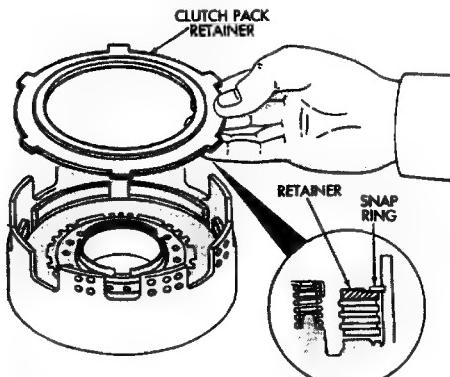

Fig. 12 Install Clutch Pack Retainer
- (5) Install clutch pack retainer in drum (Fig. 12).
- (6) Install clutch pack snap ring (Fig. 12).
- (7) Check snap ring position. If necessary, shift snap ring until end gap is not aligned with any notches in clutch drum (Fig. 12).
- (8) Check clutch piston stroke length a second time. If length is OK, continue with assembly. If stroke length is incorrect, replace clutch discs or use different thickness clutch pack retainer (Fig. 12). See Specifications section for retainer thicknesses.